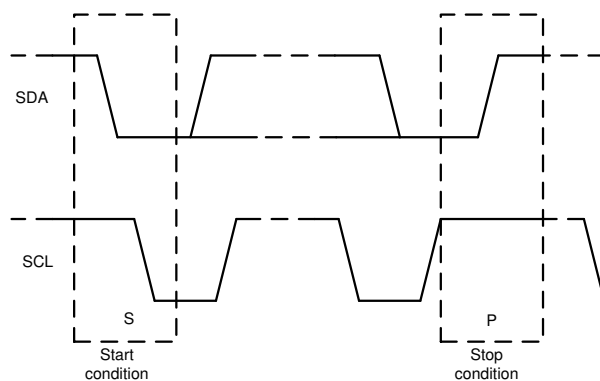

Figure 7-19. Start and Stop Conditions
1. The controller initiates data transfer by generating a start condition. The start condition is when a high-to-low transition occurs on the SDA line while SCL is high, as shown in Figure 7-19. All I²C-compatible devices recognize a start condition.
4. To signal the end of the data transfer, the controller generates a stop condition by pulling the SDA line from low-to-high while the SCL line is high, as shown in Figure 7-19. This action releases the bus and stops the communication link with the addressed target. All I²C-compatible devices recognize the stop condition. Upon receipt of a stop condition, the bus is released, and all target devices then wait for a start condition followed by a matching address.